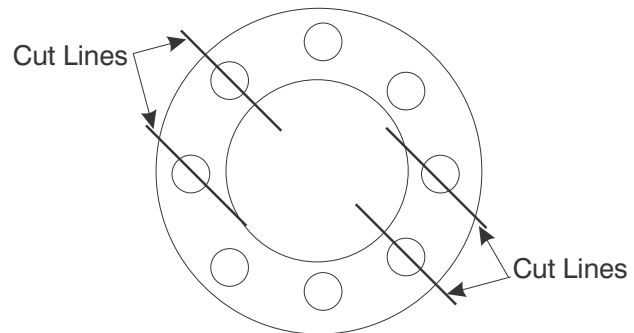

Figure 8-24. Cutting Pattern to Remove Shock Absorber from End Cap
5. Use a sharp knife or hack saw to cut through the Shock Absorber (15), and remove it from the End Cap. See Figure 8-24 for recommended cutting pattern.